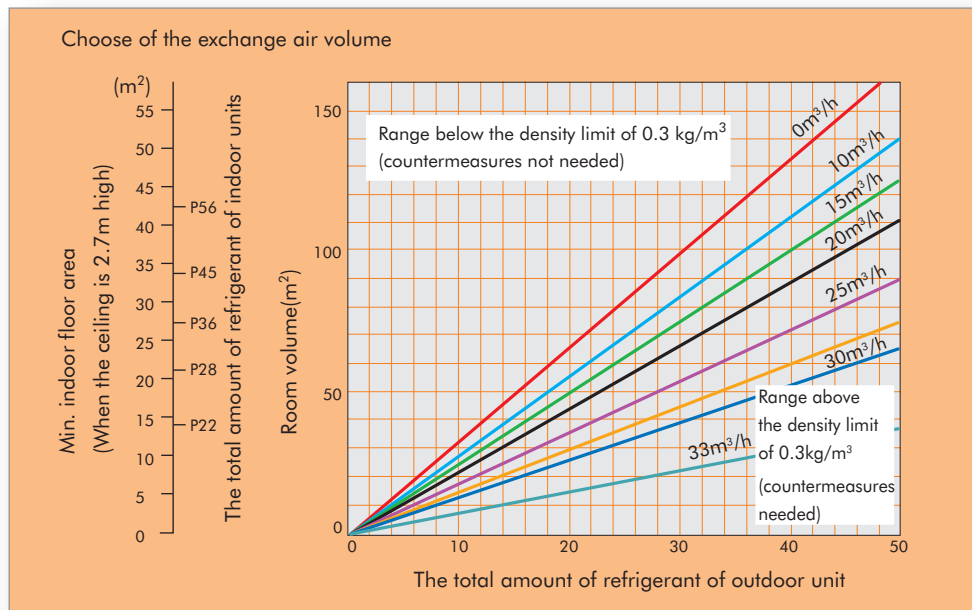

Fig:5.6
According to the total amount of refrigerant of refrigerant equipment and the room volume, air exchange volume should be greater than the volume showed in Fig.5.6.
- ◆ In order to avoid malfunction of air exchange system, please do not choose the range showed in oblique line in Fig. 5.6 even though equipped with air exchange system. If entering into this range, should set effective air exchange port, expand room volume or decrease the amount of outdoor unit, change the piping length in order to decrease total refrigerant amount, in principle according to method 1 and 2.
- ◆ Where an air exchange system is provided but it is impossible to take Method 1 or Method 2 when the refrigerant concentration is within the range indicated by the oblique line in Fig. 5.6, please use other means independent from air exchange system to ensure safety. In detail, we can set a refrigerant cutoff valve that can be activated by the detector upon refrigerant leakage and as well, set an alarm system that can notify the indoor person. The detector here is different from the detector in aforementioned air exchange system. Shown in Fig. 5.9 is the status that a refrigerant cutoff valve is set.